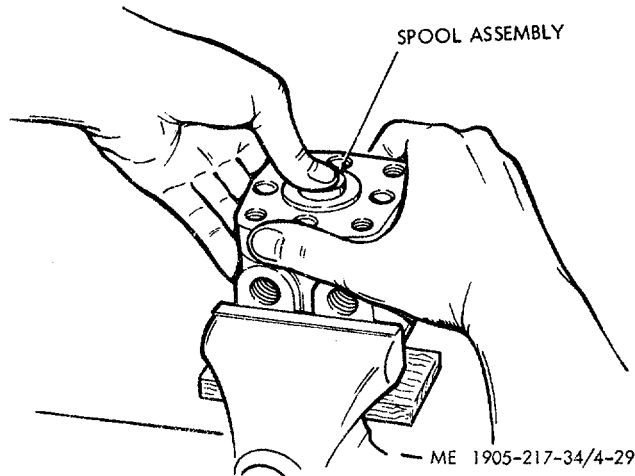

Figure 4-29. Removing end cap.
(7) Hold spool assembly down against block in vise (fig. 4-29) and lift off end cap. Inspect end cap and housing mating surfaces for obvious leakage path, wear, seal condition.